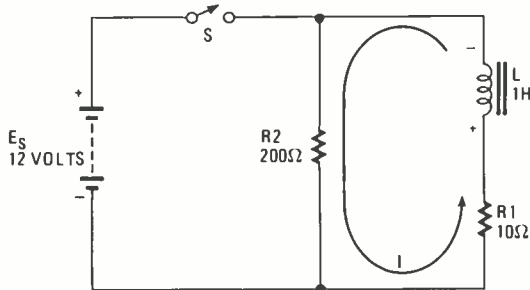

Fig. 15—A damping resistor (R2) connected across the DC supply voltage will reduce the peak value of the voltage pulse developed when switch S is opened.
48. (damage) Usually, some other component is connected into the circuit to help minimize the voltage spike. One method uses resistor R2 connected as shown in Figure 15. The resistor has no effect on the circuit when the switch is initially closed to apply power. It does draw some current from the source, however.
Its real impact is when the switch is opened. The circuit resistance has some finite value because of R2. The induced voltage causes current to flow in R2 when power is removed. The lower that resistor value, the lower the induced voltage. Note the polarity of the induced coil voltage in Figure 15. *The purpose of R2 in Fig. 15 is to _____ the induced voltage.*